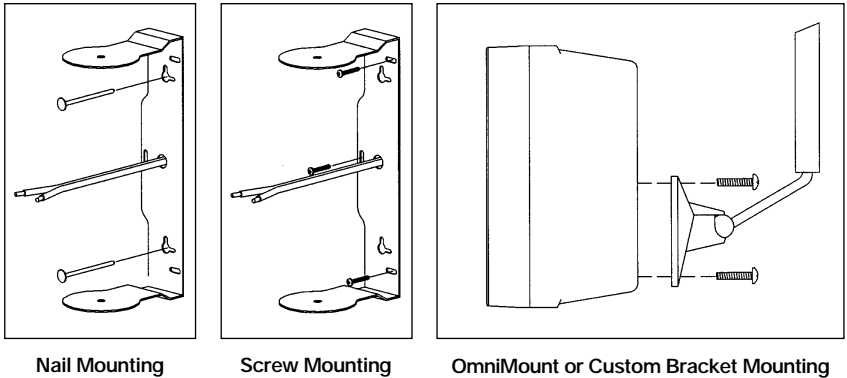

Figure 7 The OS6 can be mounted three ways.
1. If the speaker is never going to be exposed to sudden accidental impacts, wind, waves or earthquakes you can simply hang it on a nail using the nail hole(s) of the bracket (See Figure 7).
2. The safest and most secure way to mount the speaker is by screwing it to the mounting surface using your own hardware (suitable for the surface you are mounting to) and the bracket supplied with the speaker (See Figure 7).
3. There are threaded brass inserts on the back of the OS6 for attaching an OmniMount (53 RST-UMK Series) or a custom bracket (See Figure 7). This allows you to position the speaker at unusual angles or distances from the mounting surface.